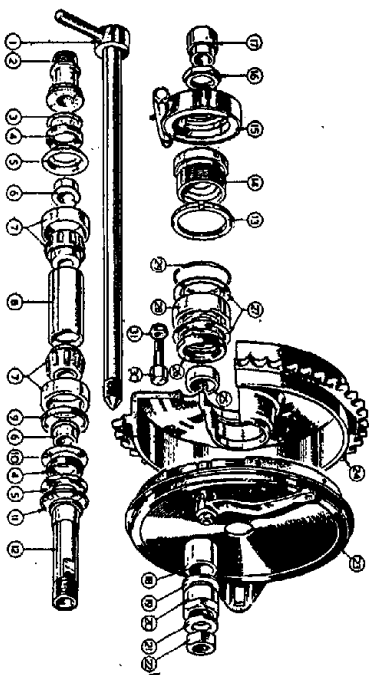

Fig. 39.—EXPLODED VIEW OF THE REAR WHEEL BEARING AND BRAKE DRUM FITTED TO 1955 MODELS.
Brake drum runs on a ball-bearing separate from hub bearings. Method of bearing retention and assembly order can be seen in Fig. 39. To dismantle, after removing rear wheel, disconnect rear chain, take off nut and washer for dummy spindle (12), cock brake to the right to clear anchor-plate stud, remove the assembly complete. After removing the circlip, the bearing and the oil seal, etc., can be pressed out. Before reassembly, lubricate the bearing with anti-centrifuge grease sparingly.
With the wheel in position, slacken the speedometer-gearbox fixing nut, disconnect the speedometer-drive cable and remove the wheel as previously described. Remove the speedometer-gearbox fixing nut, and take off nut (16) (Fig. 39) to remove speedometer gearbox, adjust the bearings as described on page 109.